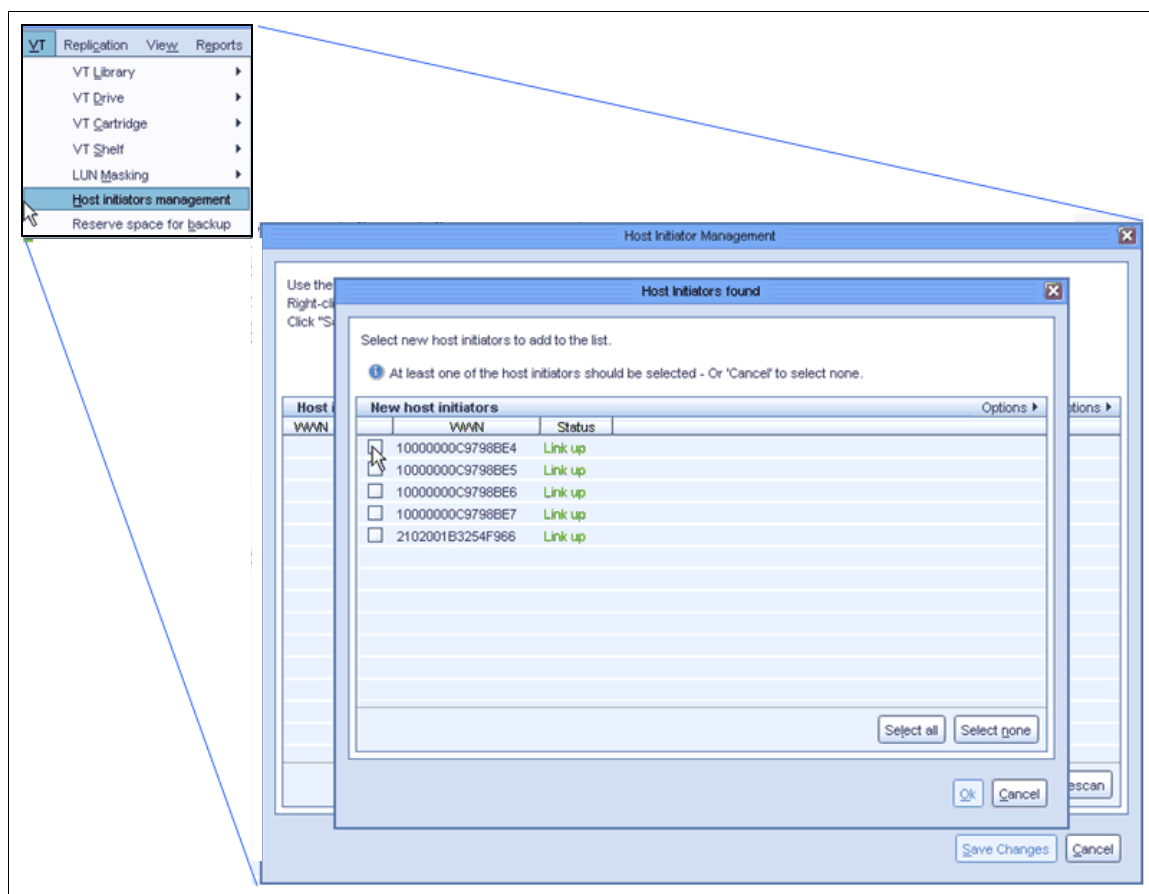

Figure 6-5 Host initiator management
1. From ProtecTIER Manager, click **VT** → **Host Initiator Management**. A list of available host initiators is displayed (Figure 6-5).
2. Select one or more host initiators from the list, or manually add the host initiator by entering the appropriate WWN, as shown in Figure 6-5.